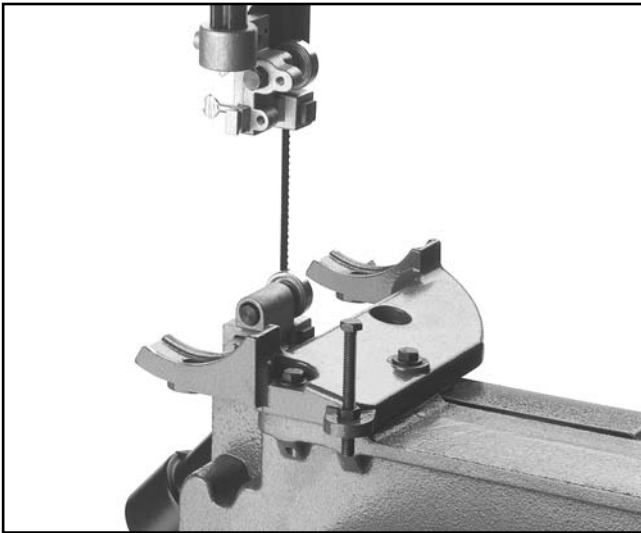

Figure 18. Table mounting bracket.
2. Line up the pin location on the mounting bracket with the pin on the bandsaw unit. Insert the two mounting bolts and securely tighten. **See Figure 18.**